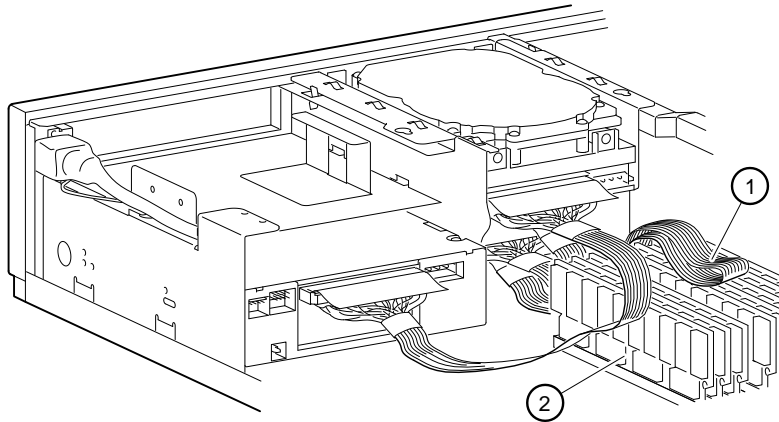

Figure 3-15. Drive Bracket Cable Routing
Figure 3-15 shows how the drive cables ① are routed over the SIMMs ②. (In your system, the spacing of cables will be tighter than the figure here shows.)